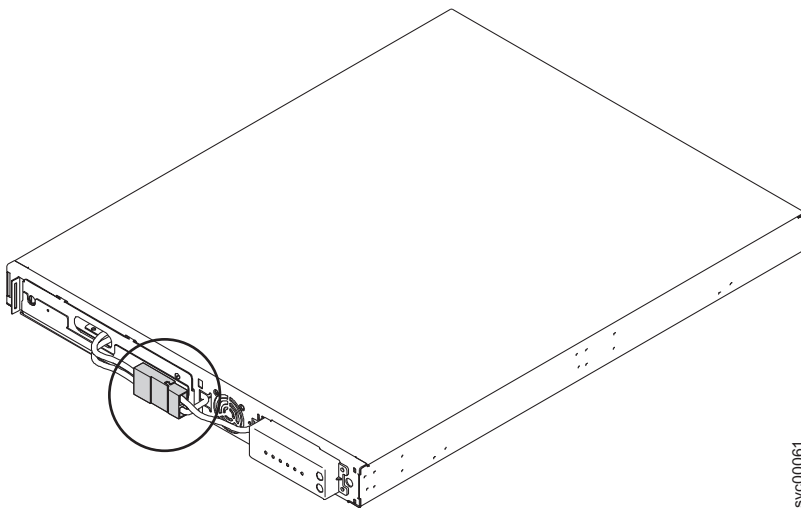

Figure 318. The 2145 UPS-1U with internal battery connectors in place
7. Connect the internal battery connector (circled in Figure 318).